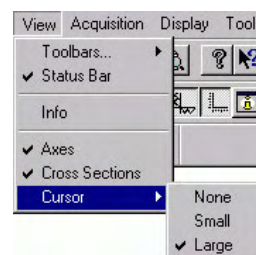

Figure 73. Selecting the Large Cursor
4. Click on the  (Autoscale) button at the bottom of the image window. Then select the large cursor by clicking on Cursor on the View menu and then on Large as shown in Figure 73.